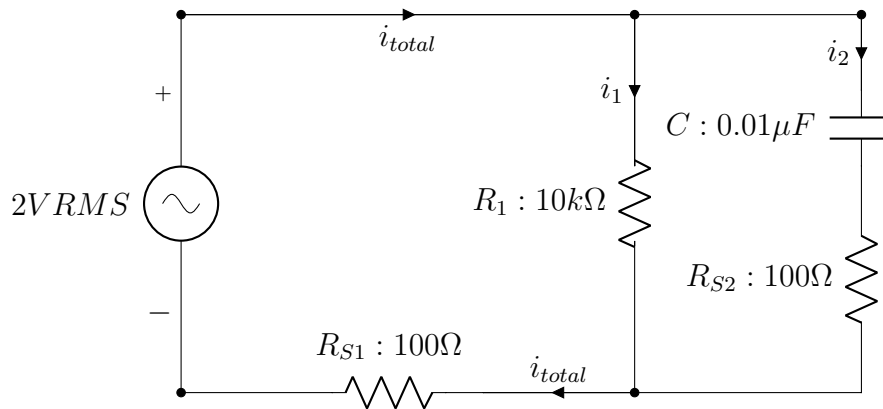
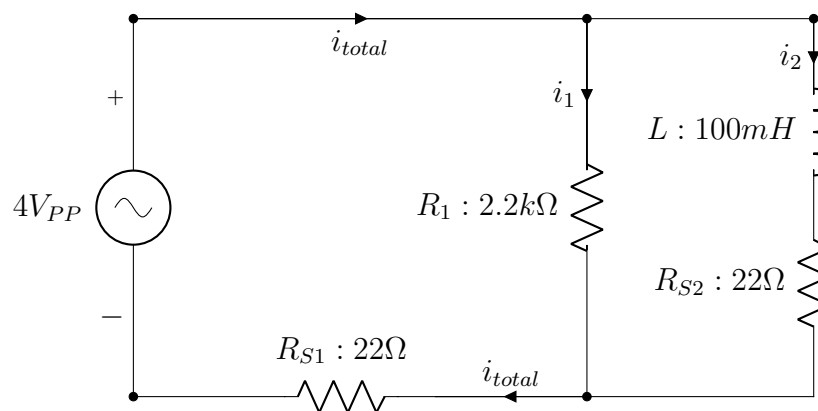

Figure 5.3: Parallel RC Circuit
Figure 5.4: Parallel RL Circuit
Part (0) Before coming to the lab, determine the voltages across and currents through each resistor in the circuits of Figure 5.3 and Figure 5.4. Record all of your calculated results in Tables 5.2 and 5.4. Record the calculated values in **polar** form.
1. Before constructing the circuit in Figure 5.3, measure circuit components using the DMM: one $10\text{k}\Omega$ resistor, two 100Ω sense resistors, and one $0.01\ \mu\text{F}$ capacitor. (Be sure to wait until the capacitance measurement stabilizes.) Record the measured values in Table 5.1.
2. Construct the circuit shown in Figure 5.3. Set the function generator to provide a sine wave with a voltage of $2.0\ V_{rms}$ at $1.0\ \text{kHz}$. Verify the voltage and frequency with your oscilloscope while the circuit is connected and operating; adjust if necessary.
Table 5.2: Measured and Calculated Values for Figure 5.3
Q1. Ignoring the effect of the sense resistors, compute the real, reactive, and apparent power of the circuit in Figure 5.3 at 1.0 kHz.
1. Before constructing the circuit in Figure 5.4, measure circuit components using the DMM and Impedance Analyzer. Record the measured values in Table 5.3.
Table 5.4: Measured and Calculated Values for Figure 5.4
- Construct the circuit shown in Figure 5.4. Using the oscilloscope's CHANNEL 1 to monitor the function generator, set the source voltage to a sine wave with a voltage of 4.0 V_{PP} at 4.0 kHz. Verify both the voltage and the frequency with the oscilloscope. Record the measured values in Table 5.4.